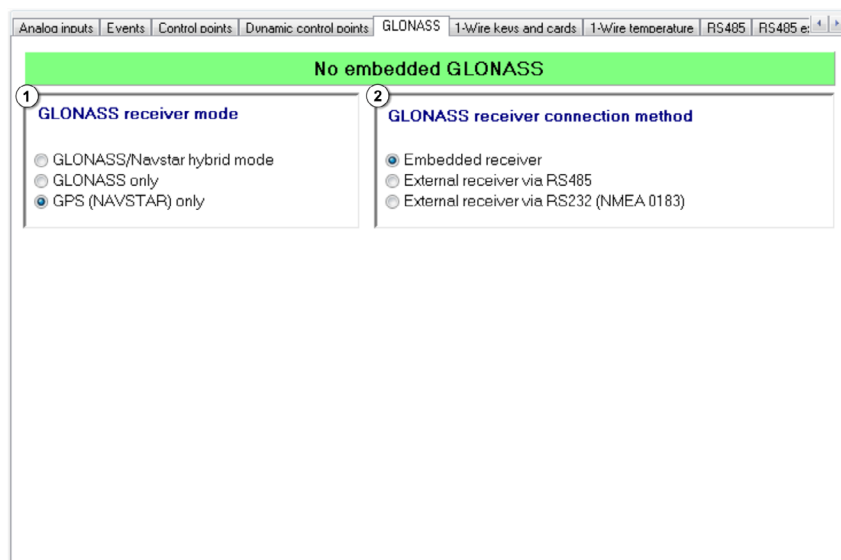

Fig.27. GNSS receiver settings.
- **Connect external GLONASS receiver via RS485 interface** – check this box, an external GLONASS/GPS receiver is connected to the device via RS485. This option is also available on GLONASS tab (see Fig.27, item 2.2).